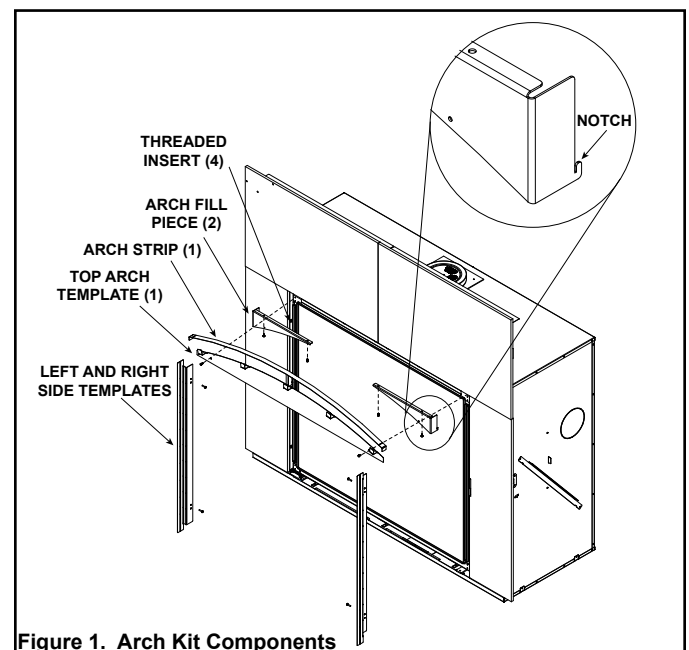

Figure 1. Arch Kit Components
5. Install left and right arch fill pieces by securing each piece into the corresponding corner with two 1/2 inch self-tapping screws. See Figure 1.
7. Secure the top arch template to the arch fill pieces with two 1/2 inch self-tapping screws. See Figure 1.